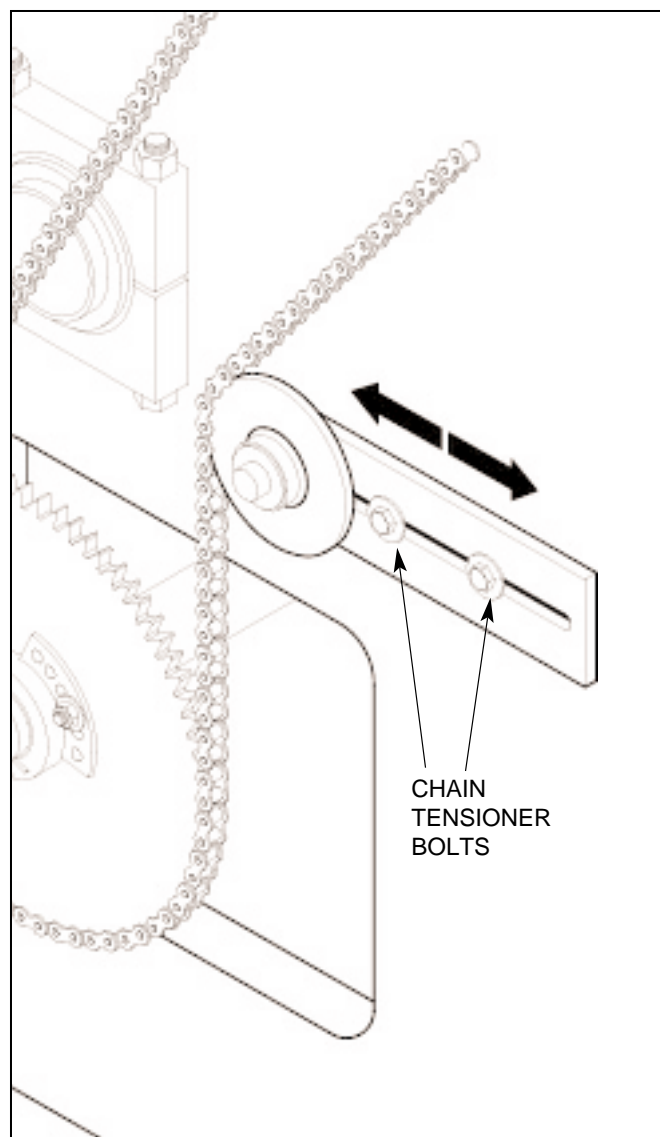

Figure 4.58 LOOSENING CHAIN TENSIONER
4.4.19 Loosen the pallet feeder drive chain tensioner by unscrewing the bolts and loosening the tensioner. Disconnect the drive chain and remove from the feeder sprocket (see figure 4.58).
- 4.4.24 Reconnect the pallet feeder drive chain (change number of links if necessary) and adjust the chain tensioner assembly (see figure 4.58).